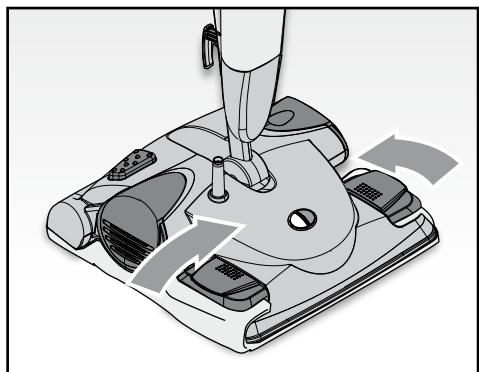

Fig. 8
- open the two cloth fastener clips (P), insert the sides of the cloth (C) and move the clips back down into place (Fig. 8).
**IMPORTANT:** Never try to force the clips (P) open, as this could cause them to break.
- Cover the whole of the cleaner pad with the cloth (C), placing it so that it is held in position by the Velcro.